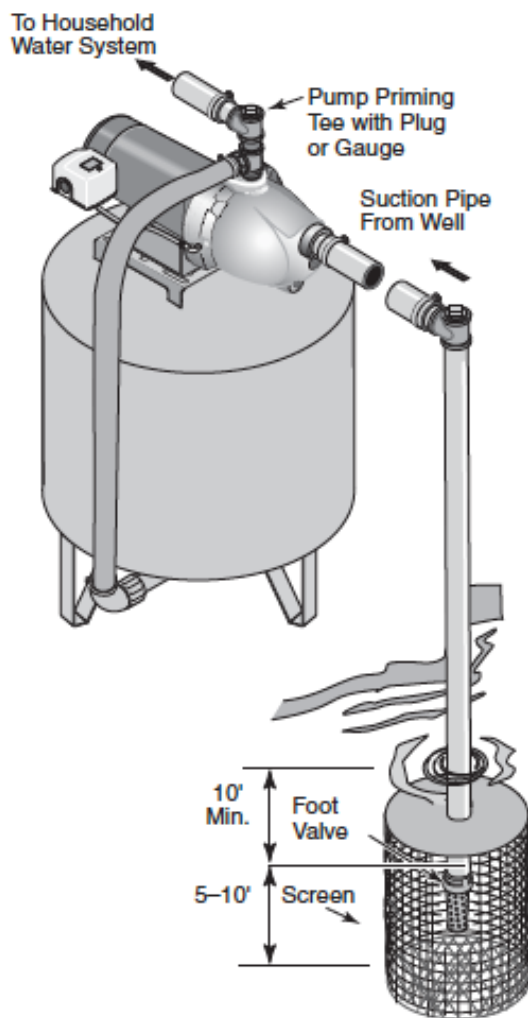

Figure 3: Surface Water Installation
2. Assemble a foot valve and suction pipe (Figure 3). Make sure that the foot valve works freely. Use PTFE pipe thread sealant tape on threaded pipe joints. Protect the foot valve assembly from fish, trash, etc. by installing a screen around it.
4. Install a priming tee, priming plug, and suction pipe to the pump (Figure 3). Support the pipe so that there are no dips or sags in the pipe, so it doesn't strain the pump body, and so that it slopes slightly upward from the well to the pump (high spots can cause air pockets which can air lock the pump).